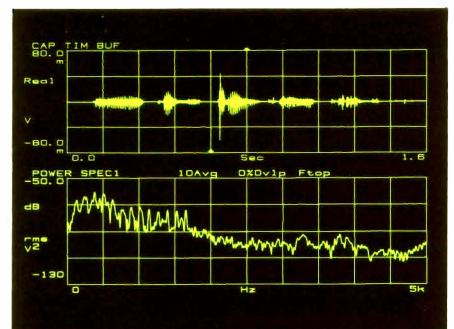

Figure 6-4
7. Start Average Press the yellow **START** key. The averaged power spectrum will be displayed in the lower trace as shown in Figure 6-4. A feature called the "capture pointer" can be used to select the beginning of a new block to be analyzed: